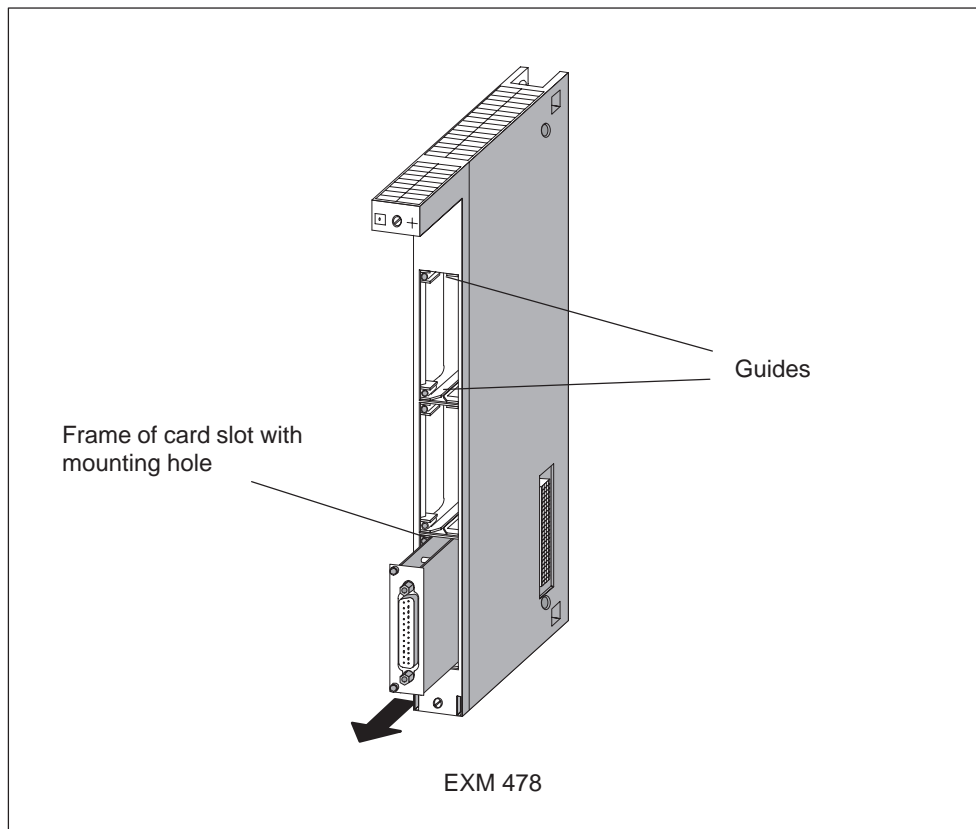

Figure 3-1 Pulling the Interface Submodule out of the Card Slot of an Expansion Module
6. Pull the interface submodule carefully out of the guide of the card slot (see Figure 3-1).